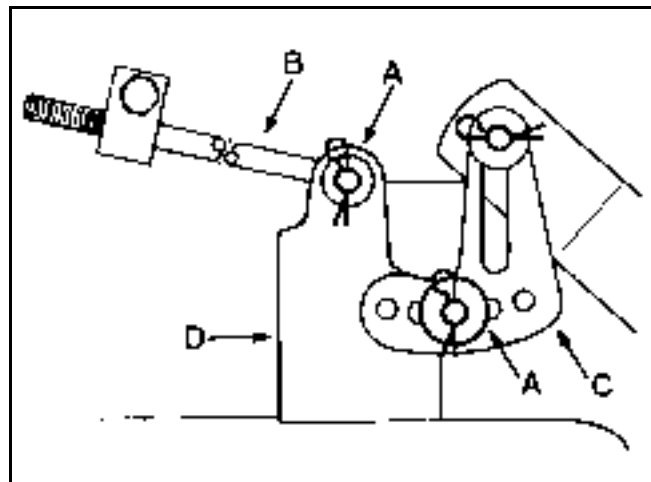

Figure 235
9. Check that both rods extend 5/8" (16mm) beyond adjustment block (Figure 235).
10. Slide the end of the long rod through the hole in the mower mount (Figure 235). Install the thin washer and hairpin cotter to secure the rod in place. Repeat this step on the opposite side of the mower.
11. Mount the slotted mower leveling bracket onto the pin on the mower mount (Figure 235). Install the thick washer and hairpin cotter to secure the mower. Repeat this step on the opposite side of the mower.